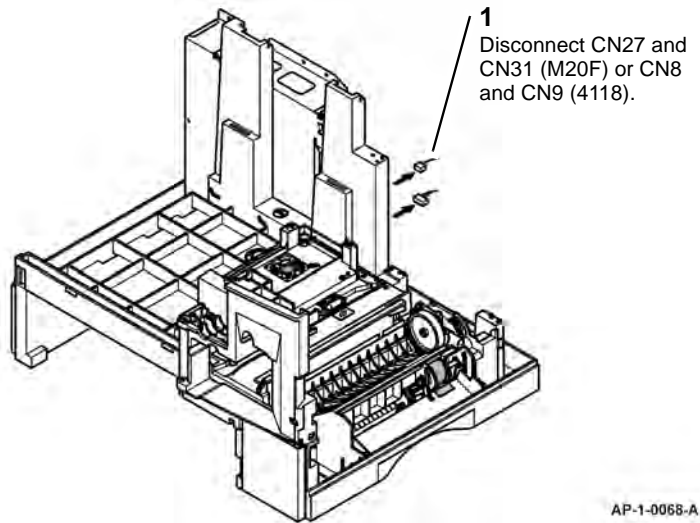

Figure 1 Connectors
2. **(M20F)** Disconnect CN27 and CN31 from the PBA main, Figure 1.
(4118) Disconnect CN8 and CN9 from the HVPS, Figure 1.